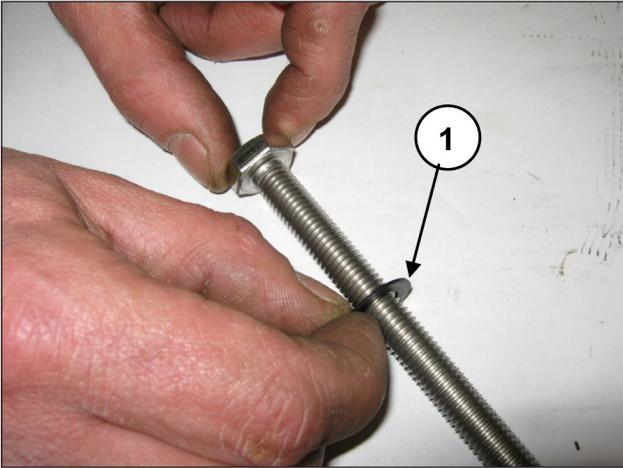

Fig. 156
Insert the Ø10x18x0.9 washer in the piston fixing screw (pos. ①, Fig. 156).